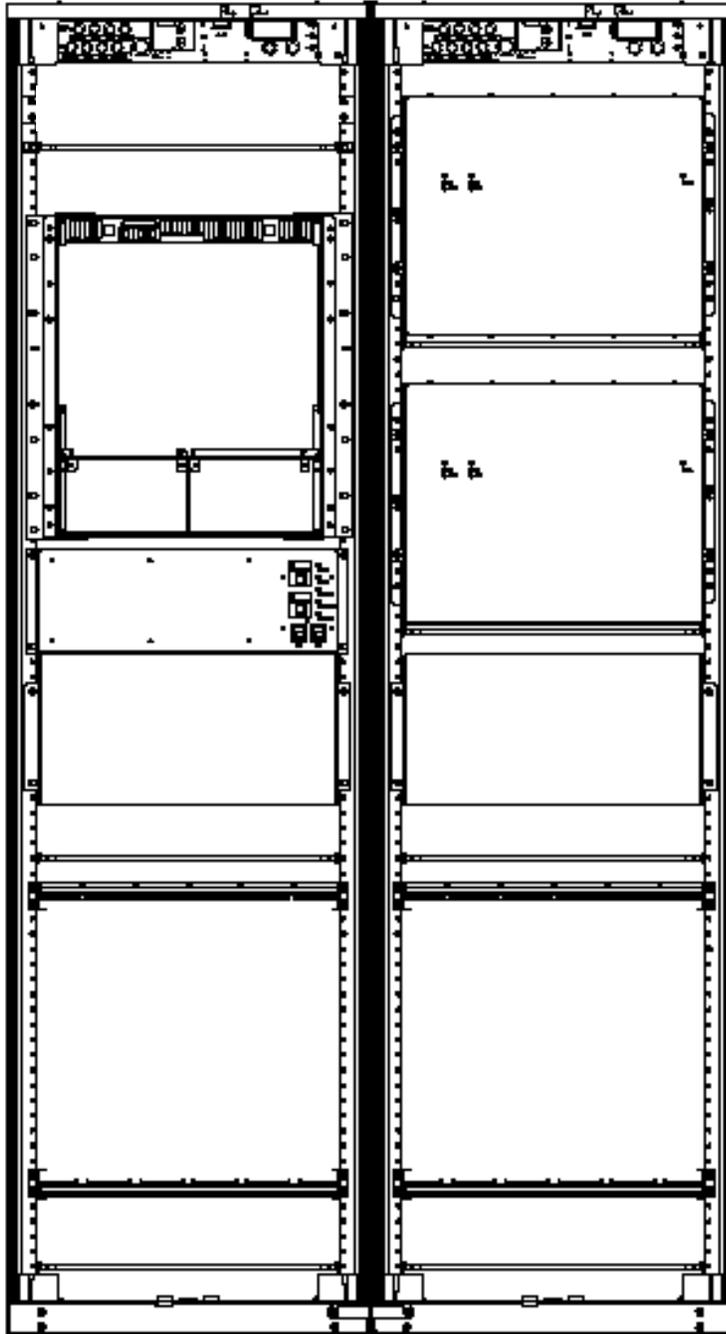
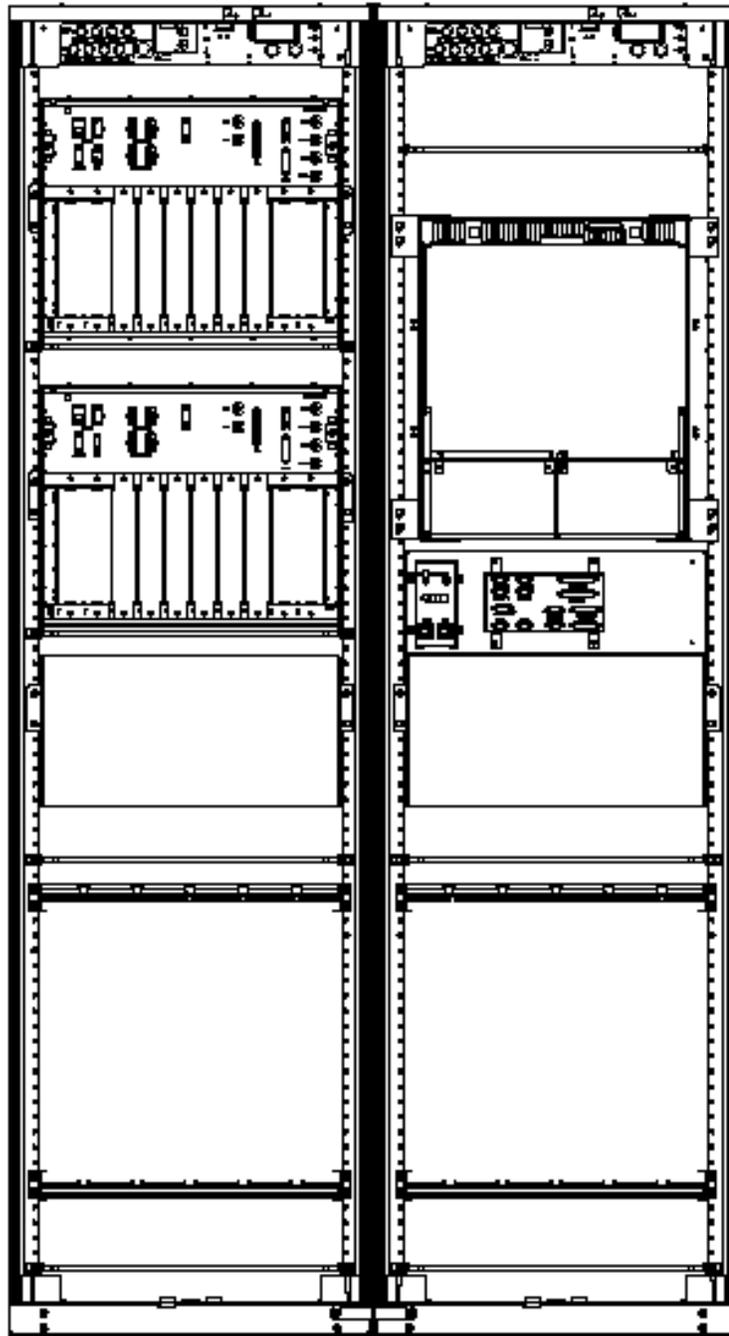

Figure 5-1. Core Complex (Front View: w/EMI Subrack Covers, w/o BSSU units)
Figure 5-2. Core Complex (Rear View: w/EMI Covers, w/o BSSU units)
The core complex consists of two racks, the Matrix and Synchronization (MS) rack and the Matrix and Control (MC) rack. These racks must always be located next to each other with the MC Rack on the left side, as viewed from the front. This is shown in Figure 5-1. (page 2). The rear view of the core complex is shown in Figure 5-2. (page 3).